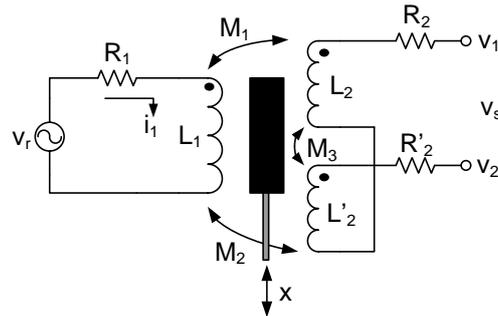
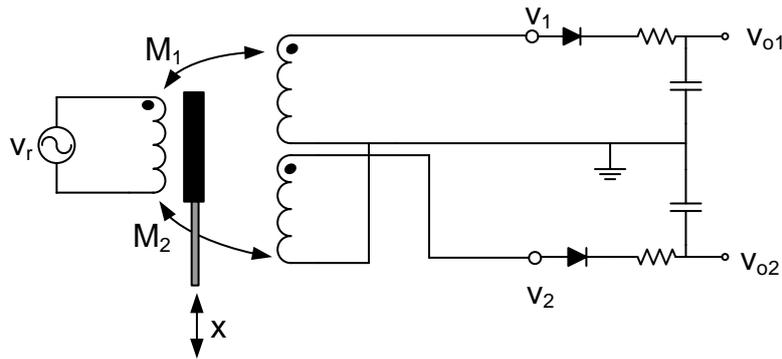

Figure 4: Measuring a displacement using an LVDT.
Figure 5: Double-sided rectifier with low-pass filter.
An active suspension system measures the displacement  $x$  between the wheels and the car body. This can be done using a linear variable differential transformer (LVDT). The sensor uses the magnetic coupling between a primary and two secondary coils to measure the displacement of a ferromagnetic core. Figure 4 shows the electrical equivalent circuit of a LVDT sensor that is connected to a voltage supply  $v_r$  with a frequency of 5 Hz and an amplitude of 10 V. There is no load connected to the output of the sensor. The LVDT has a sensitivity  $S$  of  $250 (\mu\text{V}/\text{V})/\mu\text{m}$ . The output voltage of the LVDT is equal to:
- (3p) (d) The output signal of the LVDT shown in Figure 4 is connected to a double-sided rectifier with a low-pass filter as is shown in Figure 5. Draw the output voltage,  $v_{o2} - v_{o1}$ , when the position of the core in the LVDT changes in 1 second from  $x = -15 \mu\text{m}$  to  $x = +15 \mu\text{m}$ .
- (4p) (e) The output of the sensor ( $v_s$  in Figure 4) can be connected directly to an AD converter. Alternatively the output of the sensor could be connected to a phase sensitive detector whose output is then connected to the AD converter. Give at least one reason why we prefer to use a phase sensitive detector in front of the AD converter instead of directly connecting the output of the sensor to the AD converter.